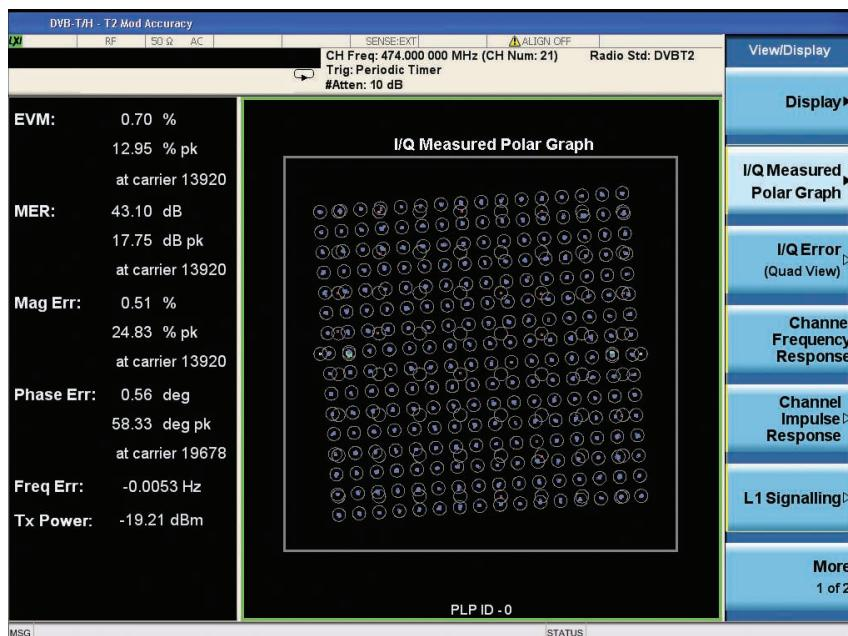

Figure 25. I/Q measured polar graph view
- **I/Q measured polar graph view** (Figure 25): A view of I/Q measured data of the specified sub-carriers and PLP index.
View the I/Q measured polar graph results (Figure 25)	[View/Display] {IQ Measured Polar Graph}